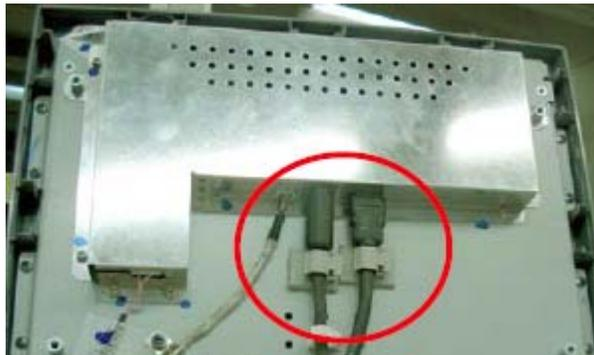

Figure 8-2 Remove Cables
- 2.) Re connect Power and Signal Cables. Refer Figure 8-2 on page 8-2